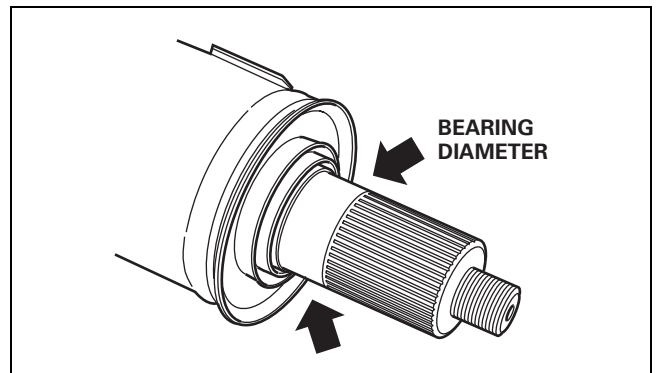

Figure 9.12
- **If the coupling shaft is damaged from a seized bearing:** Replace the entire coupling shaft. Figure 9.12.